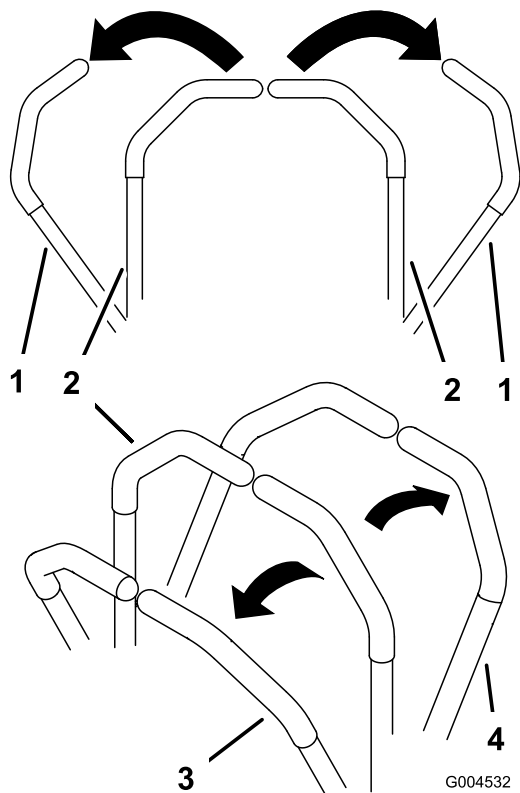

Figure 19
3. To go forward, slowly push the motion control levers forward (Figure 19).
To go straight, apply equal pressure to both motion control levers (Figure 19).
To turn, move the motion control lever toward neutral in the direction you want to turn (Figure 19).
2. To go backward, slowly pull the motion control levers rearward (Figure 19).
To turn, release pressure on the motion control lever toward the direction you want to turn (Figure 19).